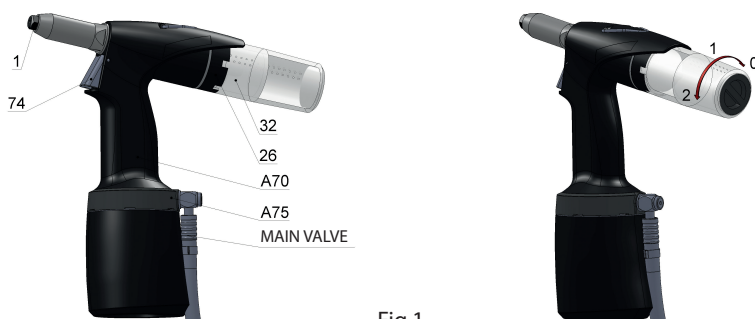

Fig.1
The manufacturer equipped the tool with a nose-piece /fig.1 – pos.1/ for a rivet Ø 5,0. Riveting with blind rivets of different diameters (further on referred to as BR) requires use of appropriate nose-pieces that are located in the accessories casing of the tool.
Replacement of nose-pieces: Connect the tool to the source of compressed air, depress the trigger and screw out the nose-piece /fig.1 – pos.1/ with a spanner no. 12. Screw on a new nose-piece /acc. to the chart/ and tighten it. Now you can release the trigger of the tool.
The tool is equipped with revolving air supply /fig.1 – pos.A75/ which enables manipulation with air supply before as well as during tool operation, air hose does not obstruct riveting in any position.
The tool is equipped with multifunction trigger /fig.1 - pos.74/ which enables following:
- Unlock the trigger (shifting the trigger down to the stop) and release it. The suction is switched on and the trigger is in position see fig. 1.
The tool is equipped with a multifunctional mandrel container /fig.1 - pos.32/ which has the following positions:
Put and push the mandrel container /fig. 1 - pos. 32/ into the ring relief /fig.1 – pos.26/ end-to-end, thus you depress the arrestment element, and turn to position 1 or 2. The mandrel container shall thus be in place. The suction shall initiate in position 2. Relative position of the mandrel container with air outlets /fig.1 - pos.32/ and the ring relief /fig.1 – pos.26/ ensures that the outlet air pressure goes out in a suitable direction (e.g. offward the operator of the tool).
Turn the mandrel container /fig.1 - pos.32/ end-to-end to position 0 and pull it out of the ring relief /fig.1 – pos.26/. The suction shall thus switch off.
Suction switches off by turning and removing the mandrel container /fig.1 - pos.32/. Insert BR into the riveting tool through the nose-piece hole. Depress the trigger to move the jaws offward the BR head. The movement ends when reaching max. stroke, correct BR with respect for material gauge shall tear off the shank (riveting) for one stroke of the tool. Releasing the trigger shall return the jaws to initial position and released torn-off shank can be removed from the nose-piece by tilting the tool. /fig.1 - pos.1/.
Mounting and turning the mandrel container /fig.1 - pos.32/ to position 1 shall arrest it. Insert BR into the riveting tool through the nose-piece hole. Depress the trigger to move the jaws offward the BR head. The movement ends when reaching max. stroke, correct BR with respect for material gauge shall tear off the shank (riveting) for one stroke of the tool. Releasing the trigger shall return the jaws to initial position and the released torn-off shank can be transported into the mandrel container by tilting the tool.
Suction switches on by turning the mandrel container /fig.1 - pos.32/ to position 2. In this position the suction holds BR in the nose-piece /fig.1 - pos.1/ which enables riveting in any position without danger of BR falling out of the nose-piece of the tool. Depressing the trigger shall perform riveting. Releasing the trigger shall transport the shank into the mandrel container. If the mandrel container